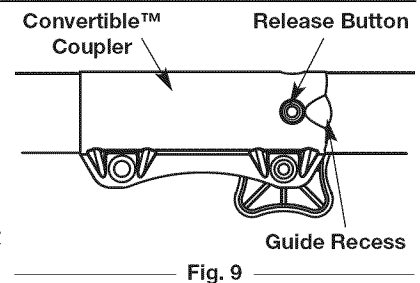

Fig. 9
2. Press and hold the release button (Fig. 9).
**NOTE:** Aligning the release button with the guide recess will help installation (Fig. 9).